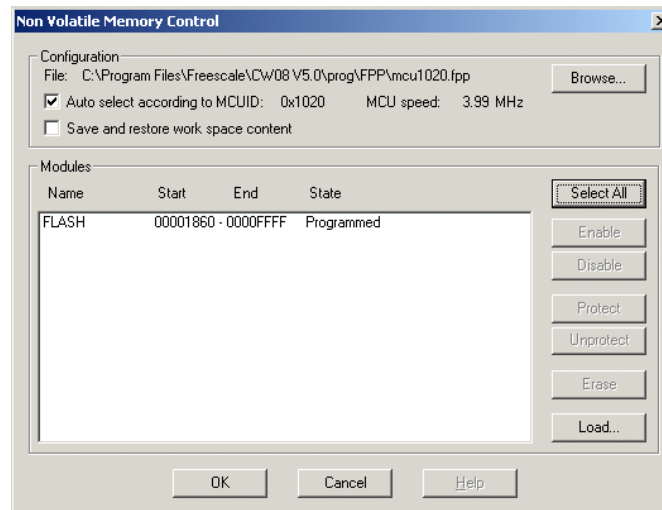

Figure 15. Non Volatile Memory Control Dialog Box
- When the load button is pressed, the "Load Executable File" dialog box opens as shown in Figure 15.